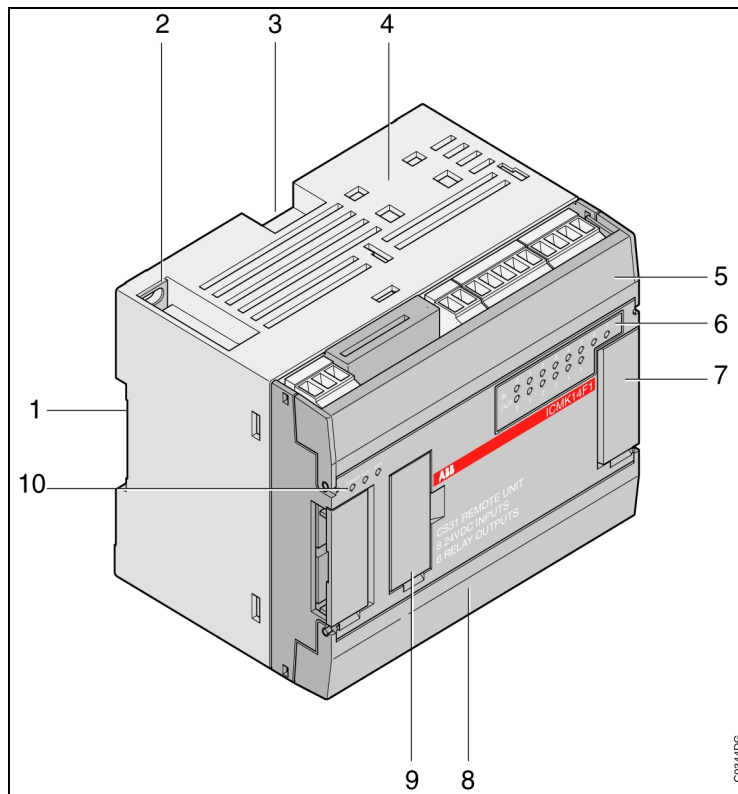

Figure 2-3: View of a centrally extensible remote module
**View of a centrally extensible remote module (description), see also Figure 2-3 on the previous page**